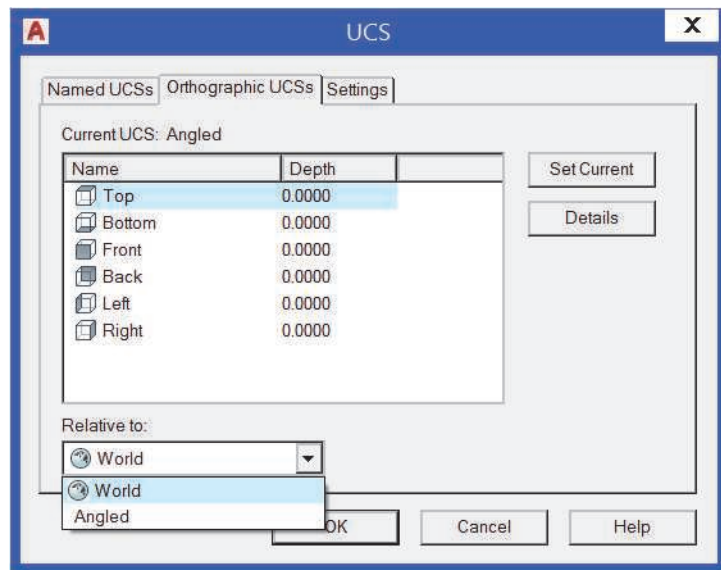

Figure 3–28
4. In the *Relative to:* drop-down list, select the named UCS you want to move relative to, as shown in Figure 3–28.